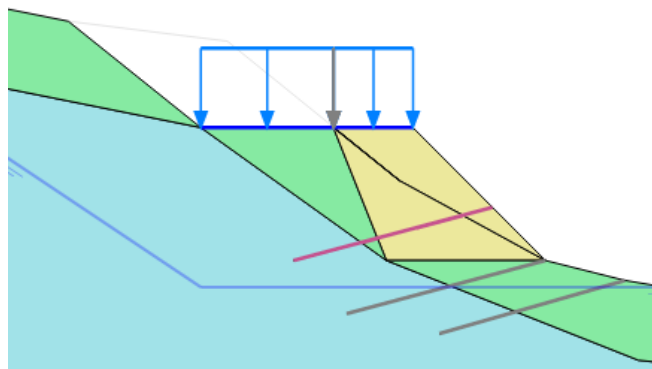

Figure 7: Phase 9, Road construction with traffic load and topmost level of soil nails
- Switch on the topmost soil nail, see figure 7.